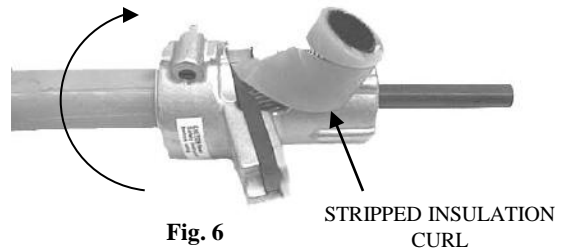

Fig. 6
Step 6. (Fig. 6) Rotate the tool clockwise around the cable to remove the insulation. Insulation will peel off until the cable conductor reaches the stop bar. The blade will automatically sever the insulation cleanly at the end of the cut.